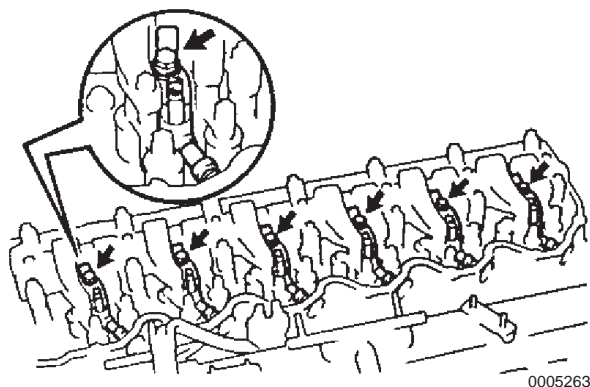

Figure 6-14
9. Remove the nozzle holder clamp from the cylinder head (**Figure 6-14**).